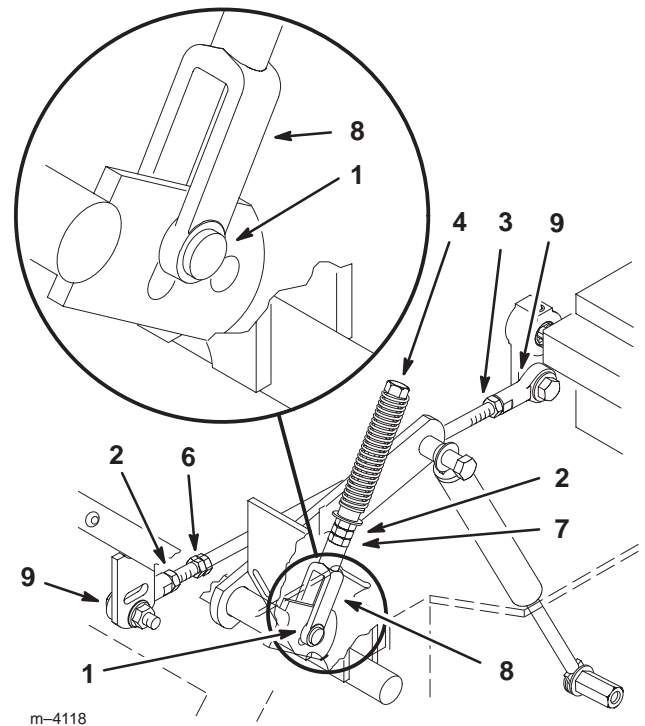

Figure 51
4. Pull lever back until the clevis pin (on arm below pivot shaft) contacts the end of the slot (just beginning to put pressure on the spring) (Fig. 51).
6. If adjustment is needed, loosen the nut and jam nut against the yoke (Fig. 51).
8. Tighten the nut and jam nut (Fig. 51).
1. Loosen the locknuts at the ball joints on pump control rod (Fig. 51).
3. Adjust pump rod length by rotating double nuts on rod, in the appropriate direction, until wheel is still or slightly creeps in reverse (Fig. 51).
6. Tighten the nuts at the ball joints (Fig. 51).